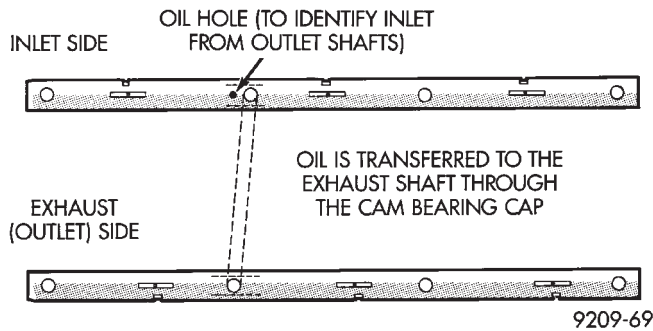

Fig. 7 Rocker Arm Shaft Identification
side has a 3mm diameter oil passage hole from the cylinder head. The **exhaust** side **does not** have this oil passage (Fig. 7).
(1) Check the rocker arm mounting portion of the shafts for wear or damage. Replace if heavily damaged or worn.
(2) Check oil holes for clogging with small wire, clean as required (Fig. 7).